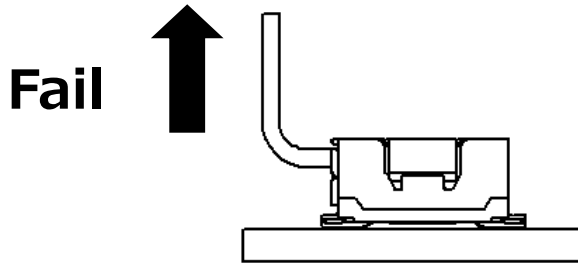

Fig. 3
- Do not pull up the cable to withdraw the plug connector as shown in Fig. 3.